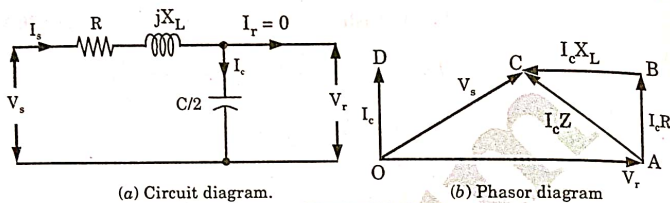

Fig. 2.27.1.
3. In order to determine the magnitude of voltage rise, one-half of the total line capacitance will be assumed to be concentrated at the receiving-end as shown in Fig. 2.27.1(a). The phasor diagram is shown in Fig. 2.27.1(b).